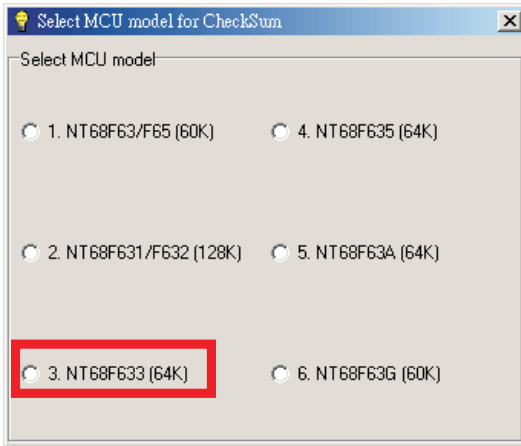

Fig. 9
3. From the menu that appears, choose the "NT68F633(64K)" as shown in Fig. 9.